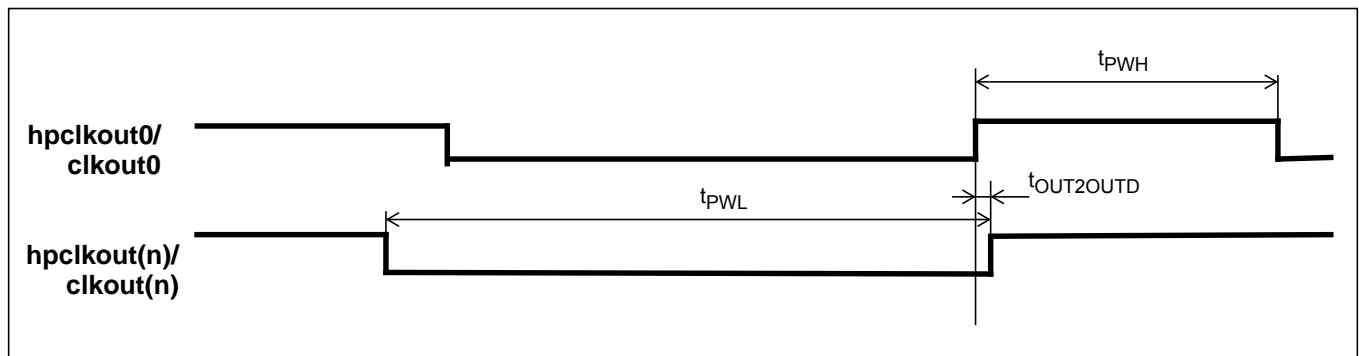

**Figure 30 - Sync Input Timing**
**AC Electrical Characteristics\* - Input Timing For Sync References (See Figure 30)**